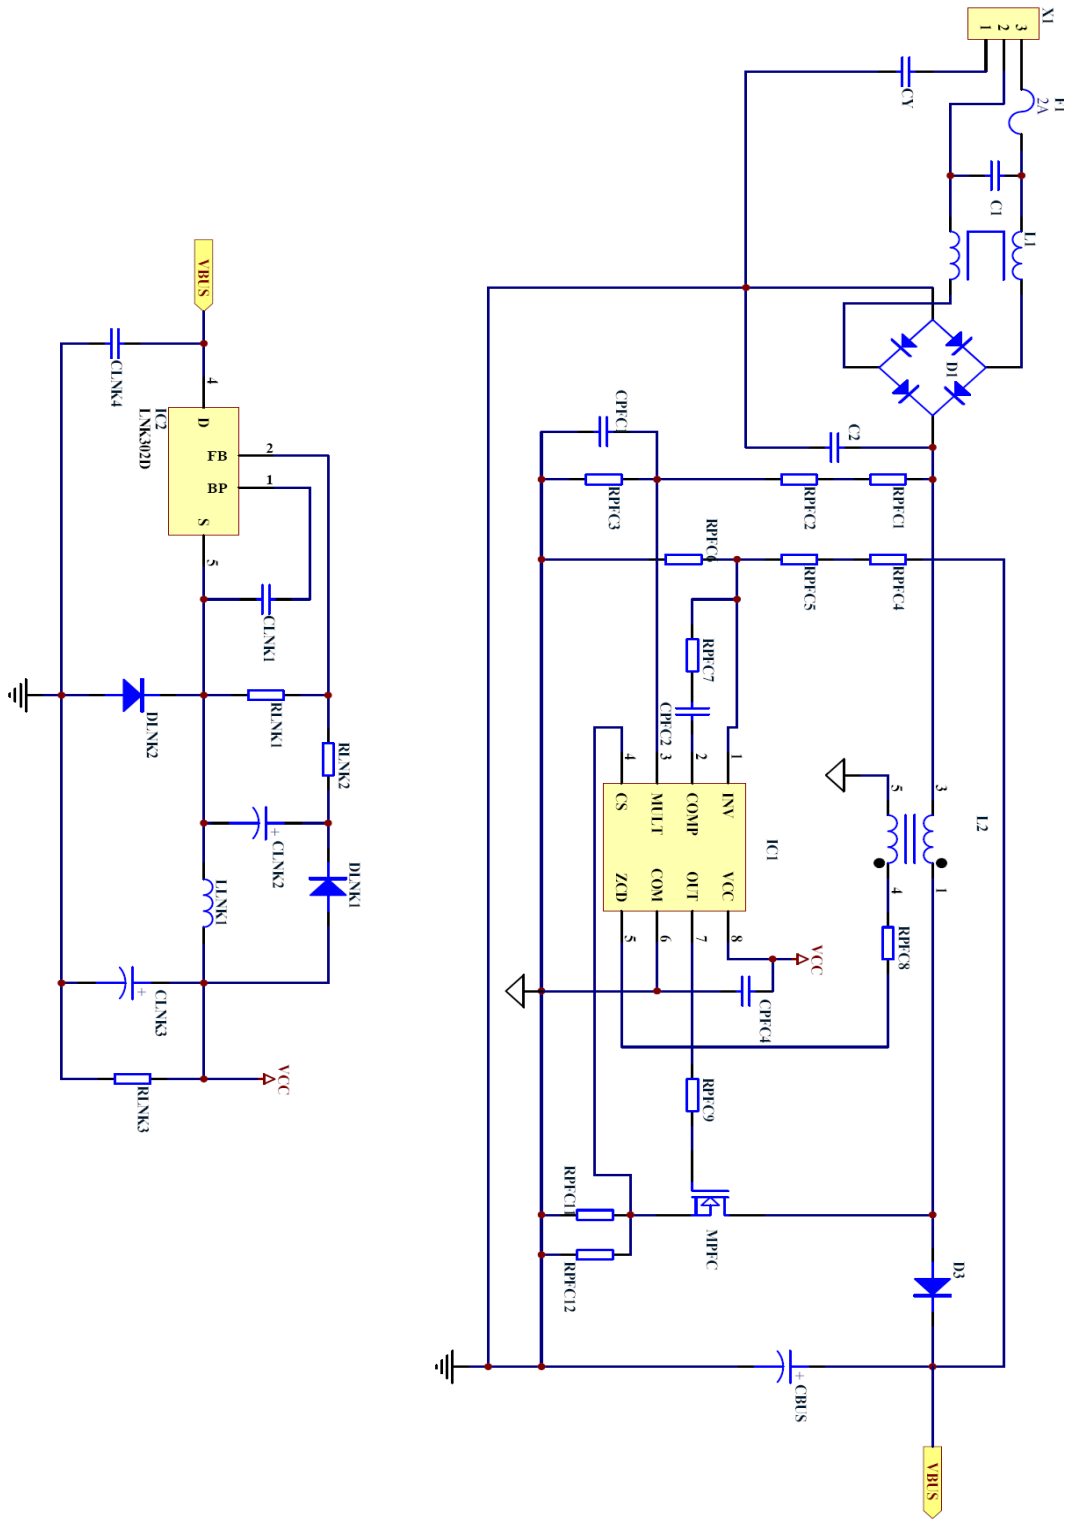

Figure 4.1: IRPLHD2 Circuit Schematic 1
the buck high-side and full-bridge high and low-side output drivers are activated. The low voltage power supply is realized with buck converter circuit utilizing the Link Switch LNK302D (Figure 4.1). Once the voltage on VCC reaches the start-up threshold (UVLO+), voltage on VSENSE pin is above VOV threshold and the voltage on RST pin is less than 1.5V, the IC turns on and the full-bridge oscillator (CT) and gate driver outputs (HO1, LO1, HO2 and LO2) begin to oscillate. During UVLO mode, the full-bridge and buck are off, the ignition timer and clock are off, the fault and good counters are reset, and the fault latch is reset.